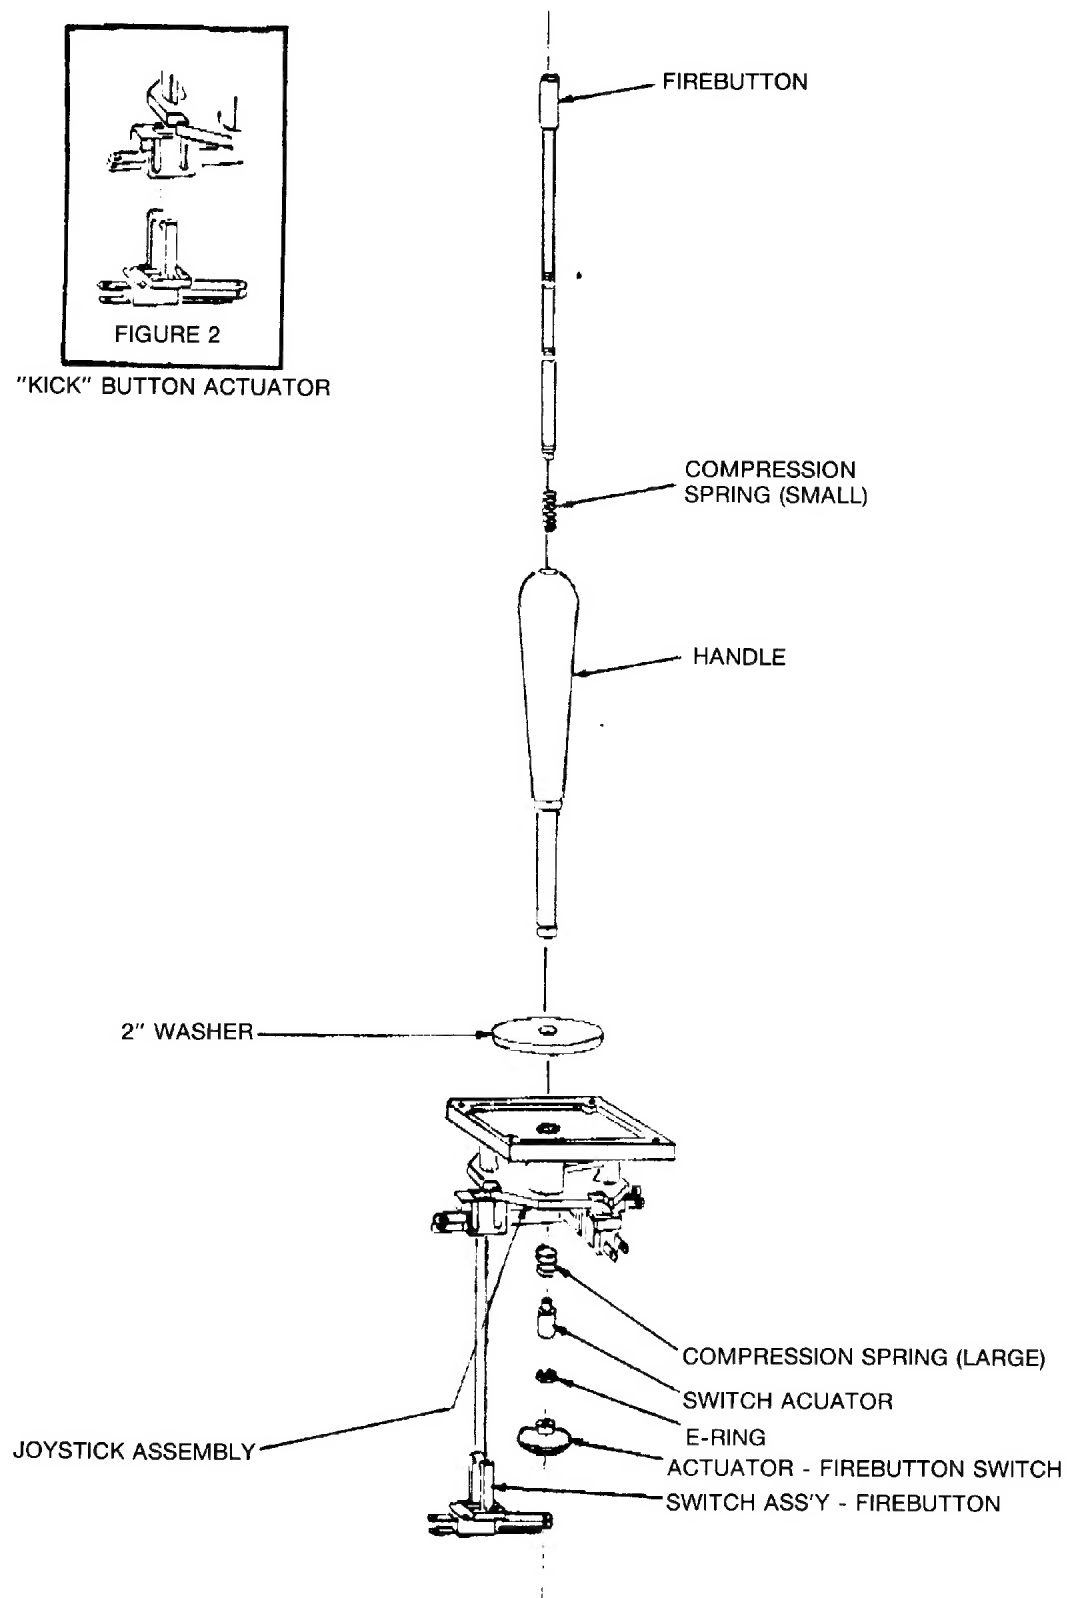

FIGURE 1
Refer to Figures 1 & 2 before starting
7. Take the firebutton switch assembly and clamp it over the joystick switch holder shown in figures 1 & 2.